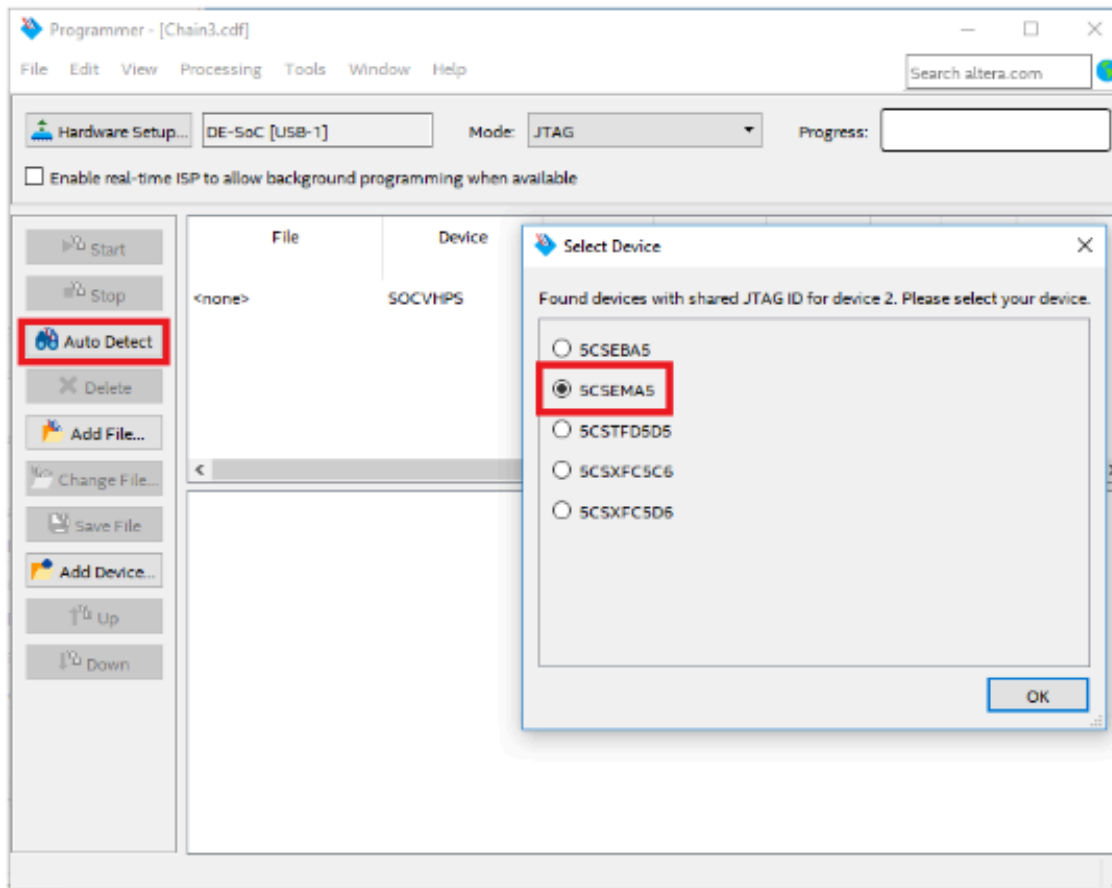

Figure 9: Program the JIC file - Step 3
- Click Auto Detect and then select the correct device (5CSEMA5), as shown in Fig. 9. Both FPGA device and HPS should be detected.